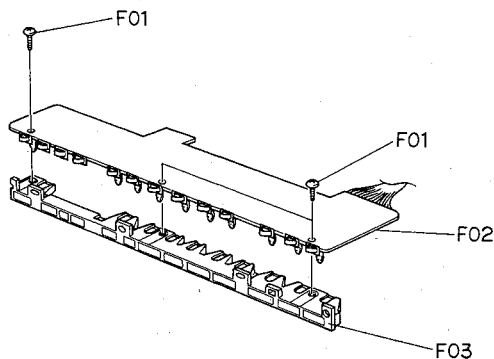

Fig. 3.8
Refer to Fig. 3.8. Remove Front Panel Ass'y and Logic R Ass'y referring to items 3.1 – 3.3 and 3.7.